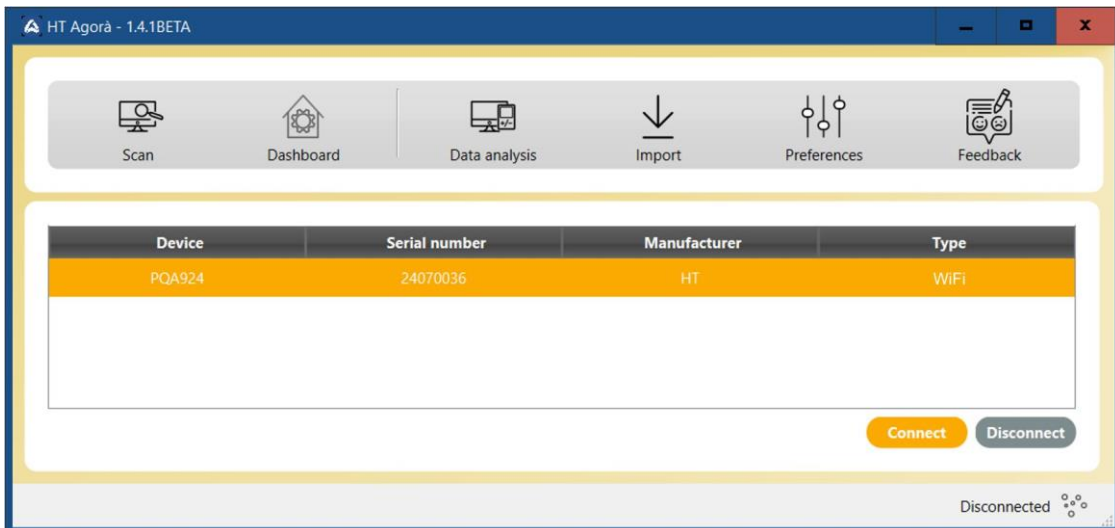

Fig. 85: Connecting the instrument via the HTAgorà software and WiFi connection
5. Click on "**Scan**" to detect the instrument. The row "PQA924" and type of connection "WiFi" are shown as indicated in the Fig. 85